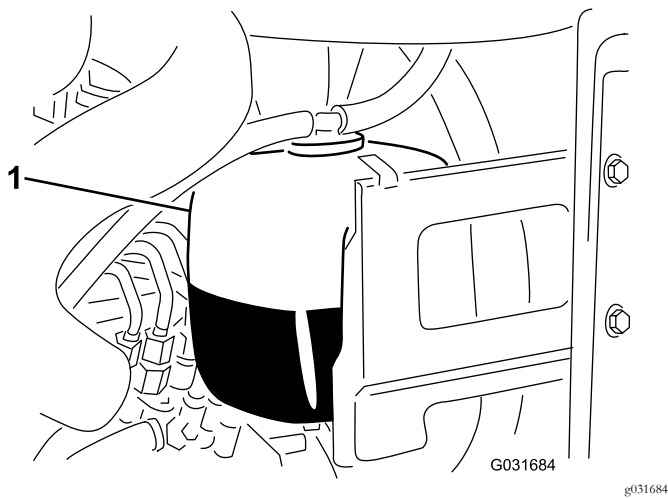

**Figure 49**
1. Check the level of coolant in the expansion tank (Figure 49).